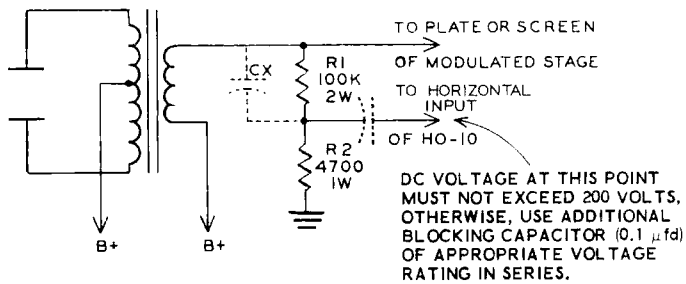

Figure 4A
4. It is necessary to obtain a sample of the transmitter audio signal where the audio modulates the RF. This point may be found at the plate or screen grid of the modulated tube. See Figure 4A. Add another 100 K Ω 2 watt resistor in series for each 350 volts over 750 volts. Capacitor CX (100 $\mu\mu\text{f}$ to 200 $\mu\mu\text{f}$) may have to be added to compensate for audio phase shift. It should be a high voltage type, at least 2 KV for Figure 4A.